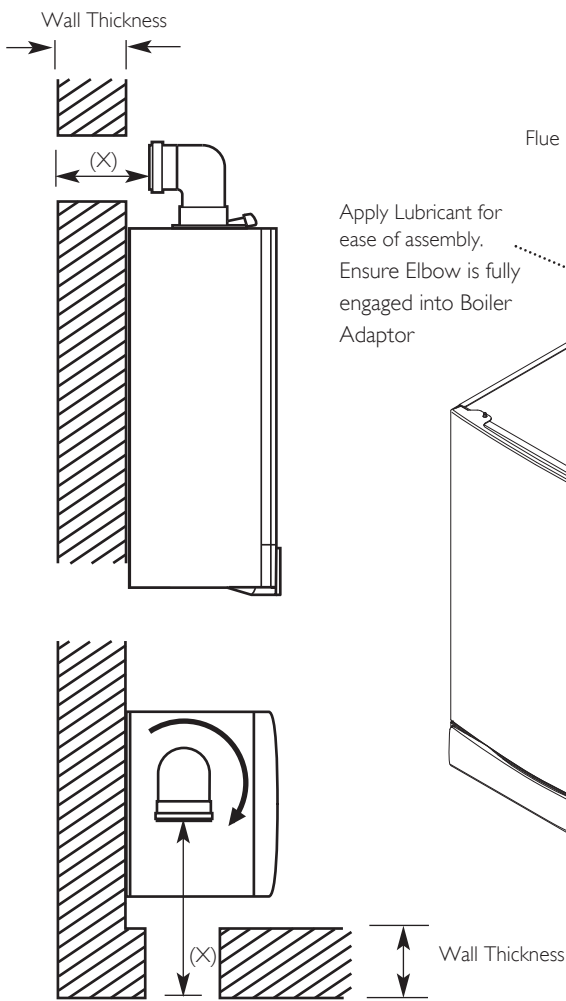

Fig. 51
3. Measure the distance from the outside wall face to the elbow. This dimension will be known as 'X' (Fig. 51).